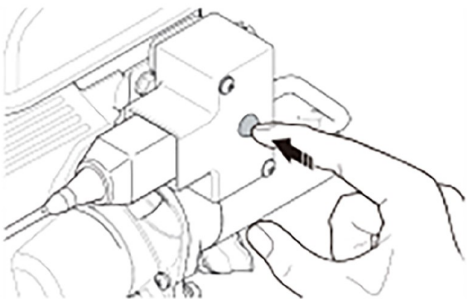

Figure 26
8. Push and hold the Starter Button on the SNOW BLOWER Control Box until the Engine starts and then release the Button (**Figure 26**).